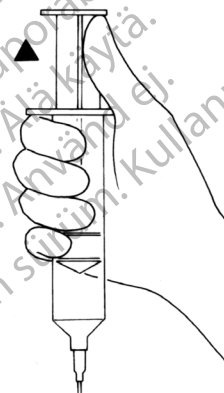

Figure 4-3a. Aspirate Air
5. Aspirate any air left in balloon until you feel resistance on syringe plunger. (Figure 4-3a)